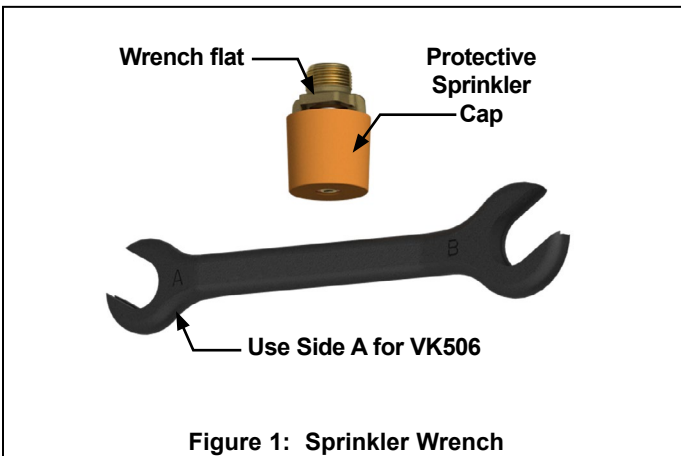

Figure 1: Sprinkler Wrench
- D. **Use ONLY sprinkler wrench 13635W/B (shown in Figure 1) for installing ESFR Sprinkler VK506. With the sprinkler contained in the protective cap, install the sprinkler onto the piping by applying the sprinkler wrench to the sprinkler wrench flats only, while taking care not to damage the sprinkler operating parts.**